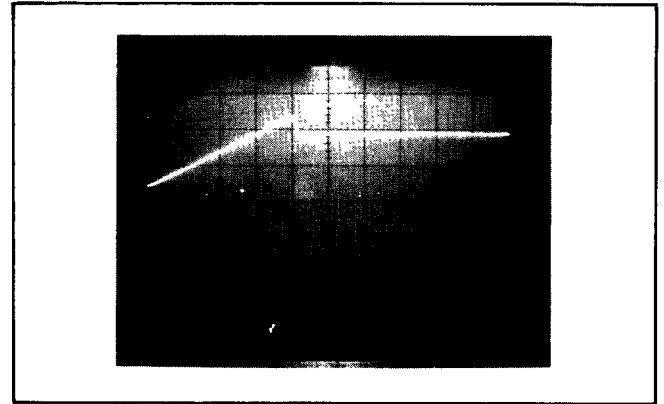

Figure 5-32. Narrow-Band Sweep, Unleveled Power
- n. Observe the 560 display and ensure that the trace does not go unleveled (Figure 5-32) at any frequency between 2 and 8 GHz.